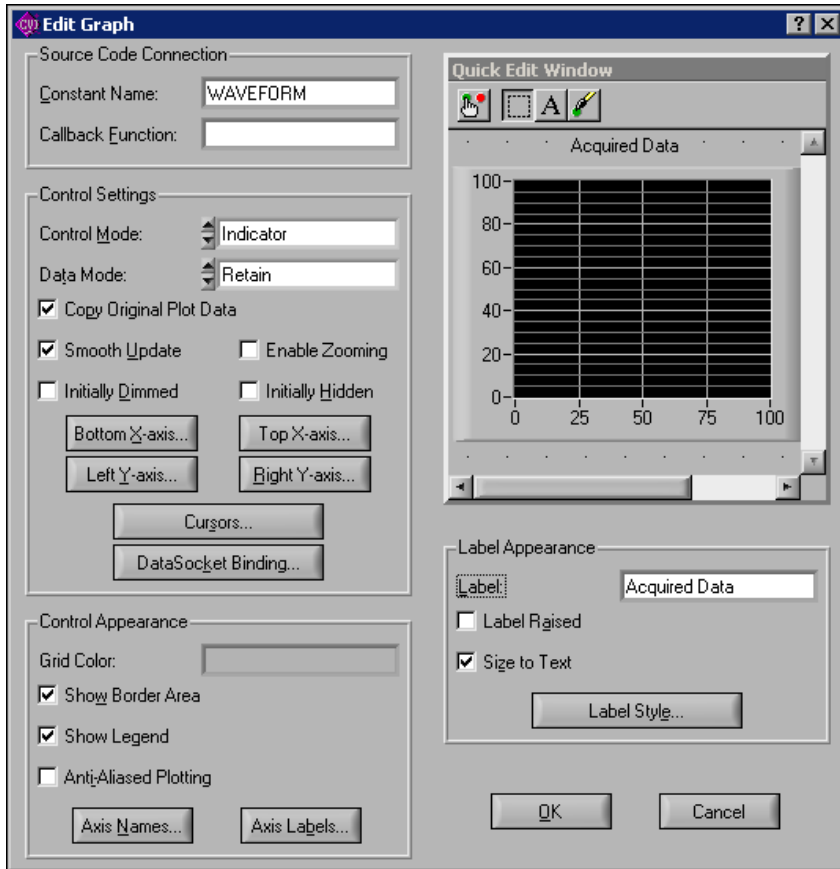

Figure 5-2. Edit Graph Dialog Box
5. Type `Acquired Data` in the **Label** control. Confirm that the dialog box looks as shown in Figure 5-2.